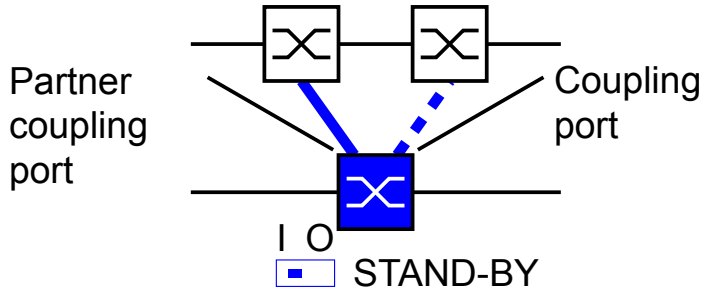

Figure 40: One-Switch coupling
- Select one-Switch coupling (see fig. 40).